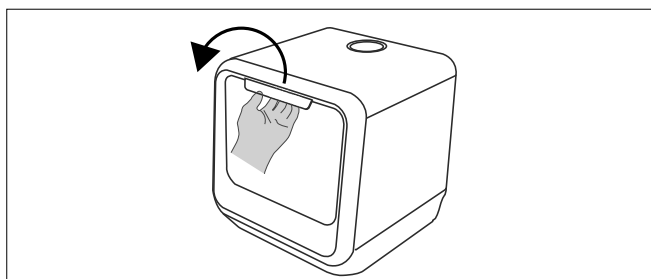

Fig. 12 – Opening the door
- ▶ Hold the recessed grip (1) and open the door by pulling it towards you. Open the door completely (see Fig. 12).